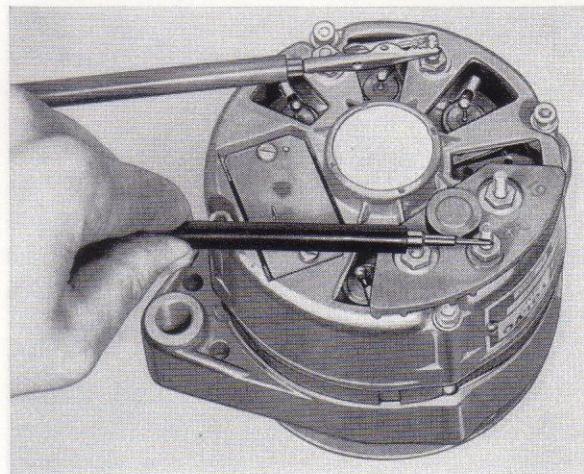

Fig. 38. Checking the alternator
7. Connect a test lamp between B+ and the alternator frame. Switch the terminals. The lamp should light only in one direction, see Fig. 38. After any repairs, the alternator should be test-run in a test bench.